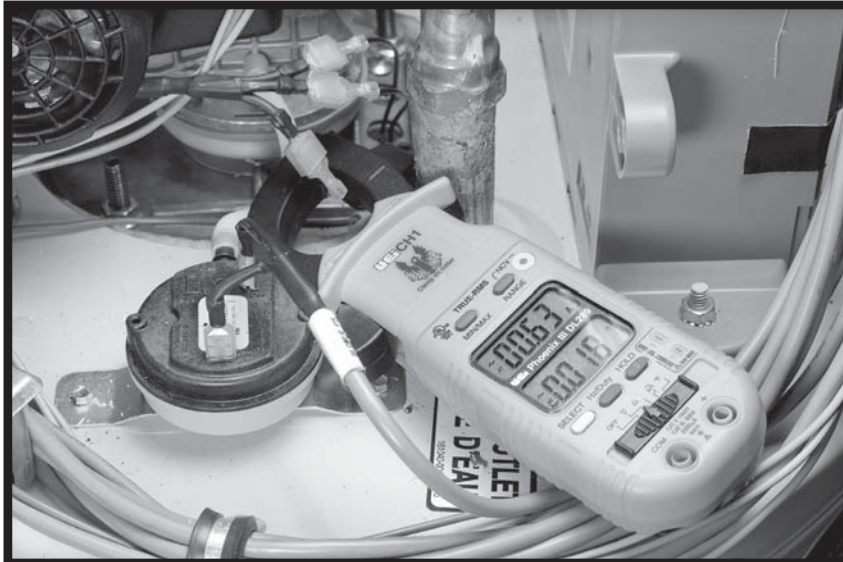

Figure 21
1. Using a clamp style amp meter, clamp the jaws of the amp meter around one of the two Igniter wires at the J5 Socket on the CCB or behind the CCB enclosure where the wiring harness from the CCB connects to the Burner Adapter wiring harness. See CCB Cover Removal And Replacement on page 40, CCB Circuit Board Layout on page 41 and Figure 21 on page 21.